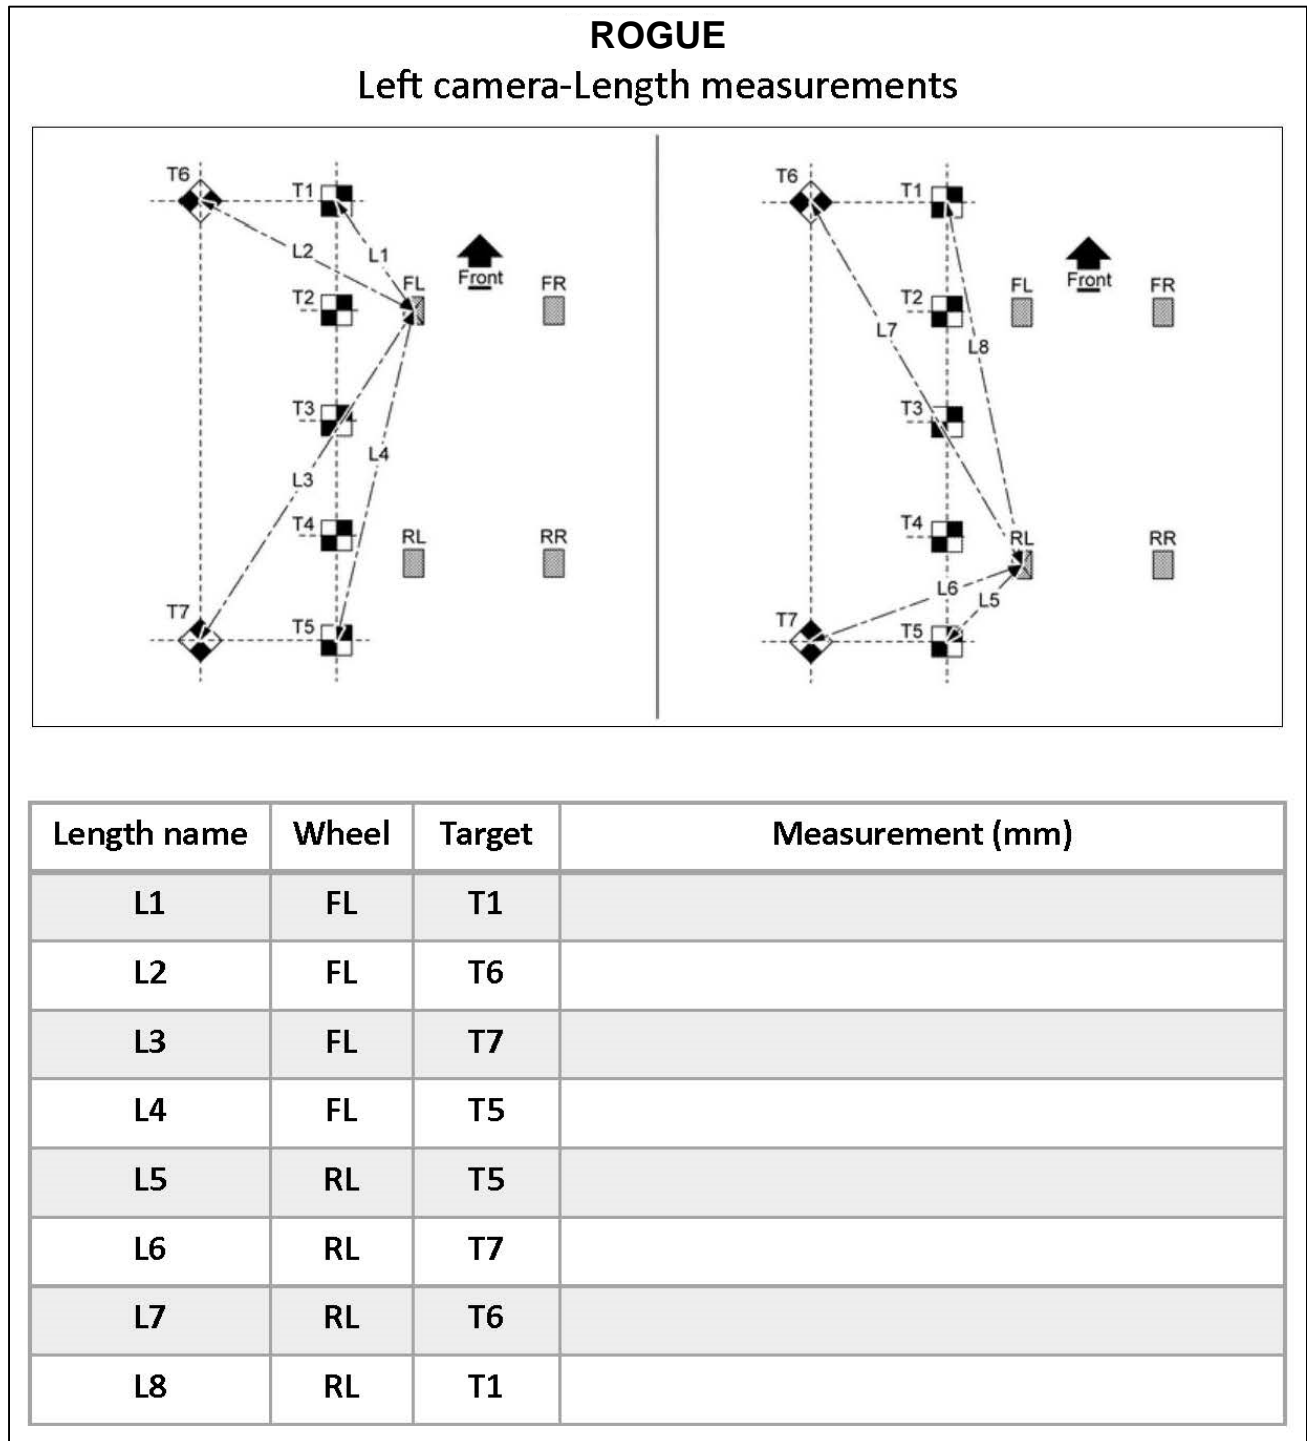

Figure 50
35. Measure the distance between the wheel center point and the center of the calibration targets T1, T6, T7, and T5, as shown in Figure 50 below.
**IMPORTANT:** All measurements must be in millimeters (mm). Refer to the illustrations in Figure 50 to ensure the correct measurement is documented in the correct order and for each calibration target.